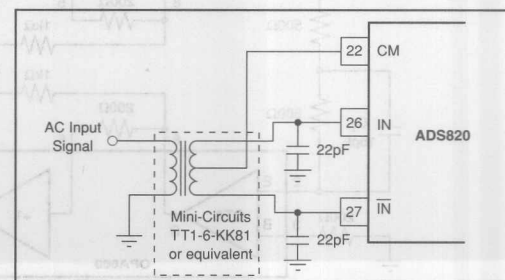

FIGURE 4. AC-Coupled Single-Ended to Differential Drive Circuit Using a Transformer.
The ADS820 has a differential input with a common-mode of +2.25V. For AC-coupled applications, the simplest way to create this differential input is to drive the primary winding of a transformer with a single-ended input. A differential output is created on the secondary if the center tap is tied to the common-mode voltage (CM) of +2.25V per Figure 4. This transformer-coupled input arrangement pro-